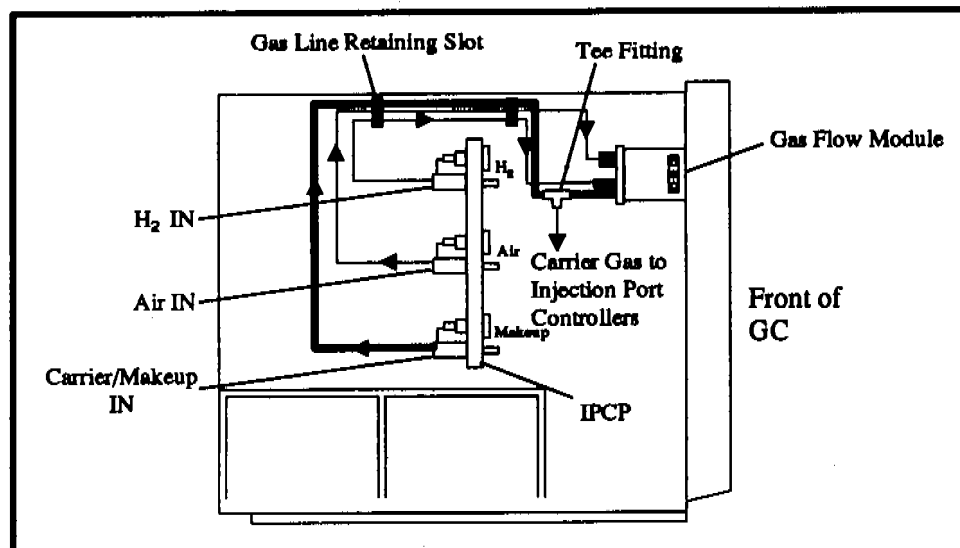

Fig. 3.3 IPCP Gas Supply Routing
- If an IPCP is installed, run 1/8" gas lines from the IPCP OUT fittings to the inlet fittings of the Gas Flow Module using a 1/8" brass ferrule set (OI Analytical #196089) (provided in the FID Start-up Kit), a 1/8" hex tube nut (OI Analytical #128108) (provided in the FID Start-up Kit), and a piece of 1/8" copper tubing (provided in the IPCP Start-up Kit). All Swagelok compression fittings should be finger-tight plus approximately 3/4 of a turn more (use two open-end wrenches). The side of the auxiliary makeup line will need to be split with a tee or cross fitting to supply gas to the injection port controllers, as shown in Fig. 3.3.